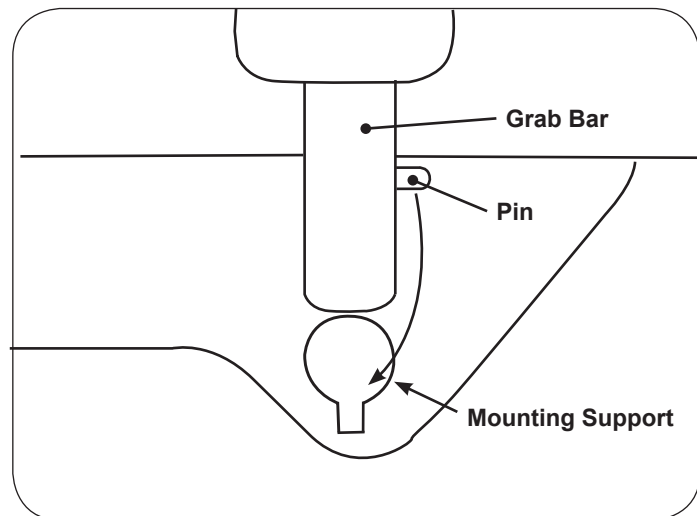

Figure 20. Grab Bar
3. Align pin on grab bar shaft with mating slot on side of table. See Figure 20.